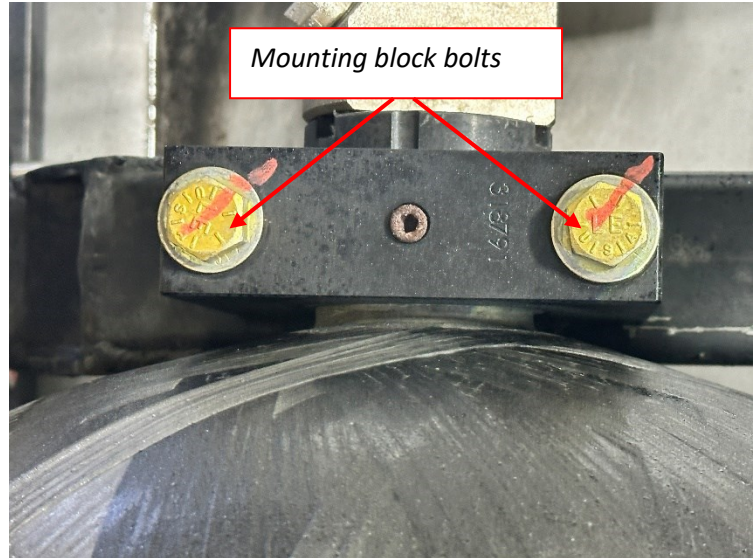

Figure 17 – Mounting Block Bolts
3. Loosen the bolts on the mounting block at the **front** of the frame near the front of the bus with the sliding bushing (See Figure 17). The bolts should not be completely removed, but they need to be able to accommodate the next step which is lifting one side of the tank.